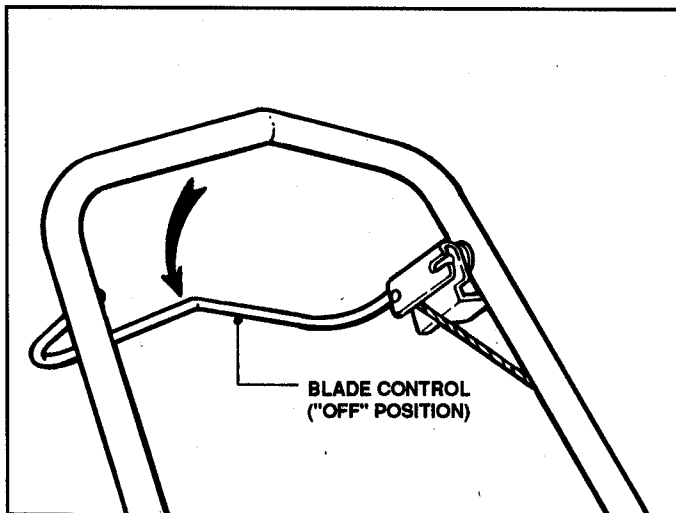

FIGURE 2
- **ENGINE: STOP ENGINE** by releasing the BLADE CONTROL. See Figure 2.